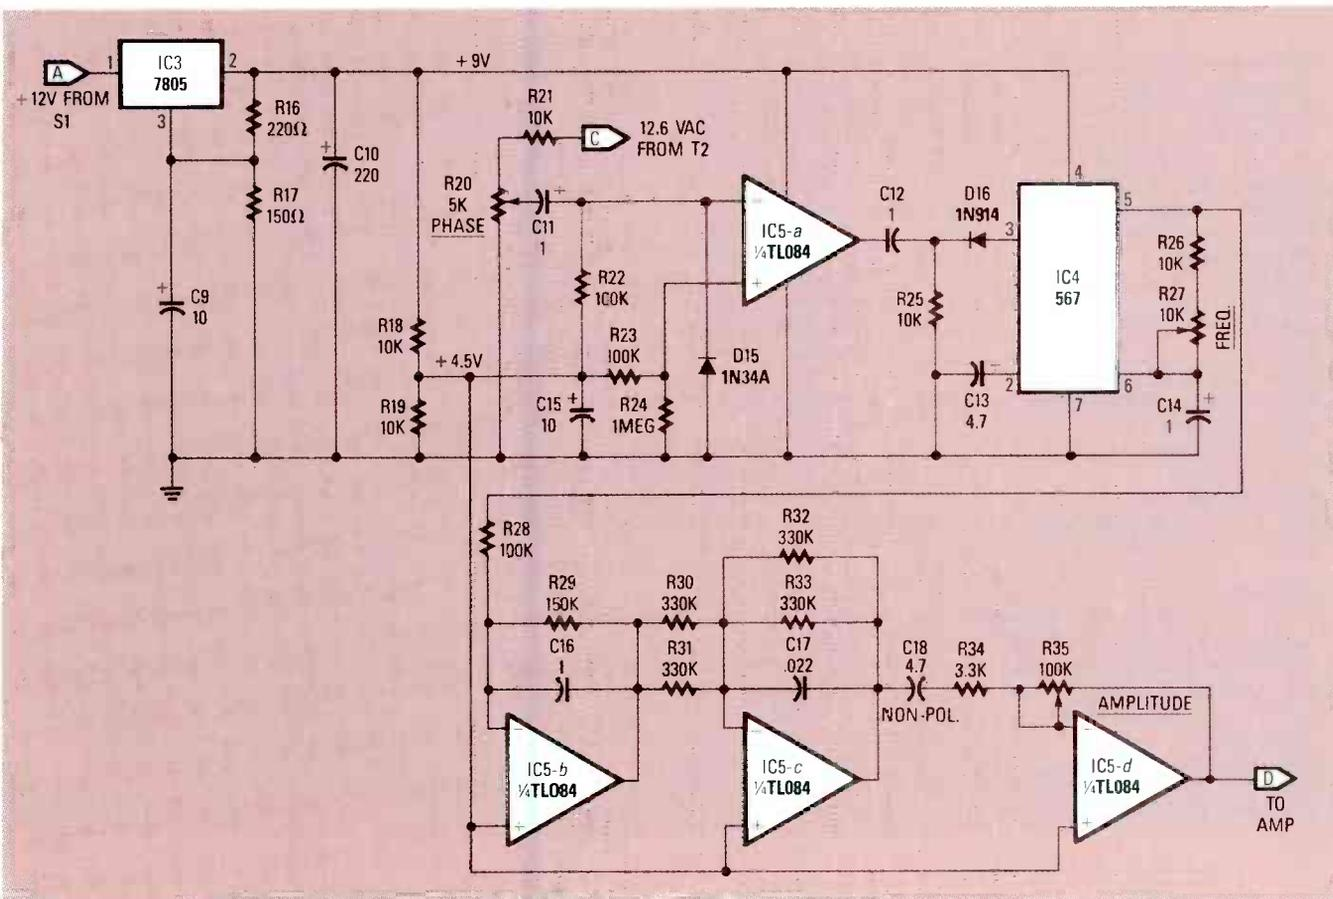

FIG. 3—THE TONE GENERATOR first develops a 60-Hz squarewave. IC5-b and IC5-c then shape the squarewave into a sinewave.
FIG. 3—THE LCD DISPLAY LOOKS LIKE THIS when data is received. In addition to the numeric data, the display shows the memory it's in and the access ("C") code being used. The unit is shown in its charger base, which permits simultaneous reception and charging of the NiCd batteries.
Figure 3 shows how a typical readout is displayed. Note that the display shows the memory (1) along with its data—**Radio-Electronics'** phone number—(that's when they tried to reach me while I was in Disneyworld)—and the letters "C1." C1 indicates it's my first access code, meaning the call originated at **Radio-Electronics** because they are the only ones who know my C1 access code. A C2 would have indicated my children were calling because only they have my C2 access code. A C3 would mean that the central station that is dialed by my home's security system in the event of fire, flood, break-in, or other hazard, is trying to reach me because only they have my C3 access code.
The Class-A drivers, transistors Q2 and Q3, also consist entirely of emitter followers. The necessary voltage step-up is provided by T3 and T4, which are also standard power transformers connected in reverse. Transistor Q1 drives Q2 and Q3 in parallel. The base of Q1 is directly coupled to the output of IC5-d (see Fig. 3), which is at 4.5 volts DC. Phase reversal for push-pull drive of the output stage is accomplished with proper connection of the secondaries of T3 and T4.
As shown in Fig. 3, the oscillator is built around IC4, a 567 tone detector. The IC's free-running frequency is controlled by resistors R26 and R27, and capacitor C14, and is set as close